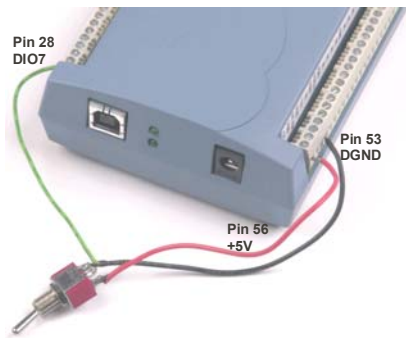
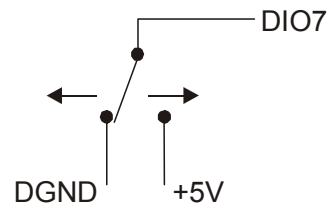

Figure 6. DIO7 detecting the state of a switch
Figure 7. Schematic showing DIO7 detecting the state of a switch
When you configure the digital bits for input, you can use the digital I/O terminals to detect the state of any TTL-level input. Refer to the switch shown in Figure 6 and the schematic shown in Figure 7. When the switch is set to the +5 V USER input, DIO7 reads *TRUE* (1). If you move the switch to DGND, DIO7 reads *FALSE*